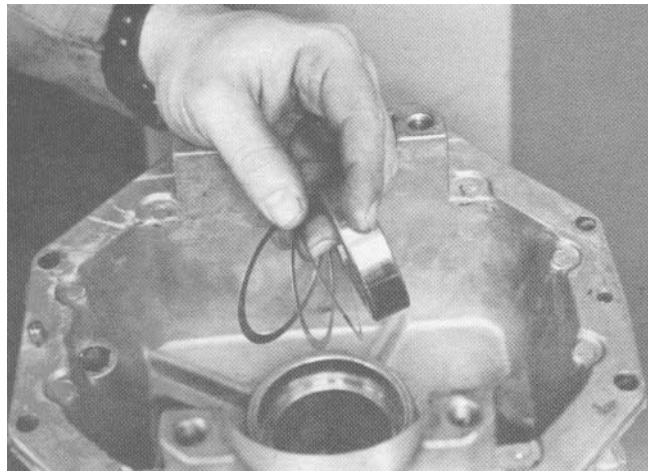

Figure 40
5. Install the correct bearing shims and a new inner bearing cup using a press plate of proper diameter. Push the bearing into the housing until it bottoms out against the shims (Fig. 40).